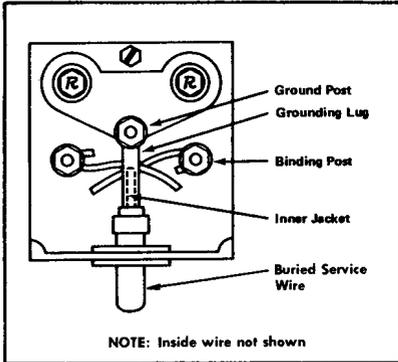

FIGURE 25.
6.08 Terminate the grounding lug directly on the ground post of a station protector. See Figure 25.